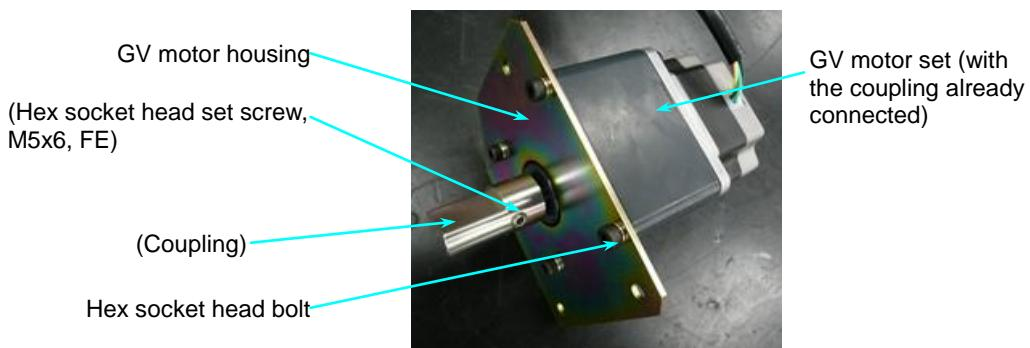

Fig. 4-10-1-6 Appearance of motor unit
- (1) Turn the instrument power off.
- (2) Remove the back panel.
- (3) Remove the connector being connected to the gate valve motor.
- (4) Using the ratchet with socket 8 attached, remove three cross-recessed hex head bolts which fasten the GV motor housing. Gently lift up the motor unit to remove from the gate valve body.
- Fig. 4-10-1-5 Removal of GV motor unit
- (5) Remove hex socket head bolts which fasten the GV motor housing to the GV motor, and replace the GV motor set.
- (6) Place the motor unit into the instrument, and make the GV coupling fit in with the rotary disk before fastening the GV motor housing. (Refer to Fig. 4-10-1-5.) If they are not fitted, rotate the GV positioning disk by hand to make them fit.
- (7) Connect the connector for the gate valve motor.
- (8) Turn the instrument power on. Under Service Manual Operations, shift the gate valve position four times to verify that gate valve properly moves to "Close", "Fill", "Close" and to "Drain" without any abnormal noise.
- (9) Attach the back panel.